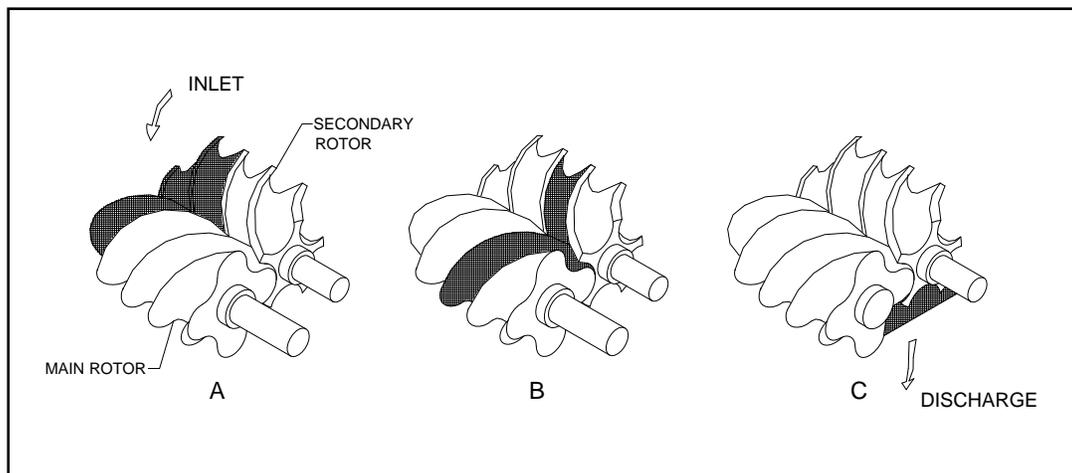

Figure 2-2
In operation as depicted below in the compression cycle (Ref. Figure 2-2), air entering the compressor through the inlet port becomes trapped between the helical lobes of the main rotor and the matching grooves of the secondary rotor (A). As the rotors turn air is trapped in the cavity created by the meshing lobe and groove and reduced in volume or "compressed". It is then pushed through the successive cavities (B) until it reaches the discharge end of the compressor (C) and is sent to the oil separator.